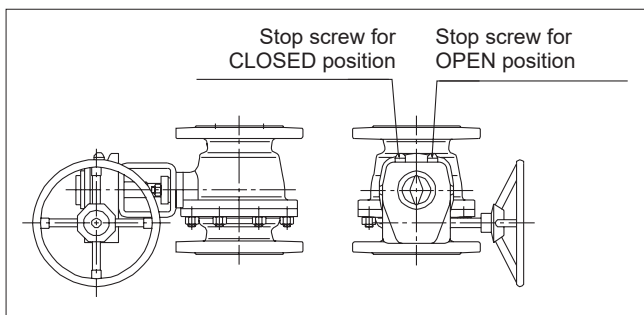

Fig. 30 Open and closed positions of the M actuator
- Adjust the ball open and closed positions with the hexagon screws located at the side of the housing (see Figure 30). The stop-screw for the open position is nearest to the handwheel on the side of the housing and the screw for the closed position is at the opposite end. The turning directions for the handwheel are marked on the wheel.